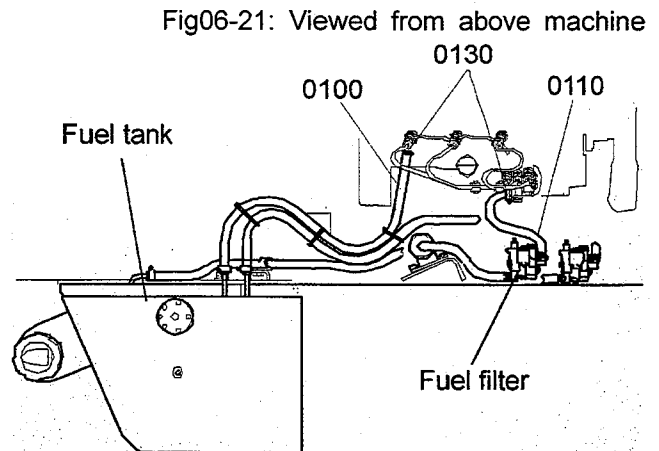

Fig06-21: Viewed from above machine
11. Fig06-21: Install the fuel hoses (0110), (0100), and tighten the hose clamps (0130).